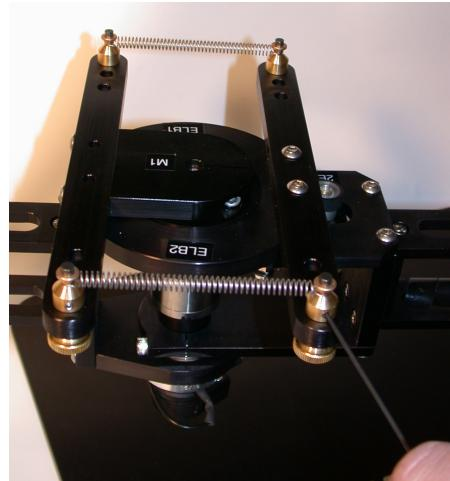

Figure 16 Tightening The Setscrews
Step 4. Clamp all four mounting posts by tightening the corresponding set-screws. This is shown in Figure 16. To do so, use a (1/16)" Allen key.